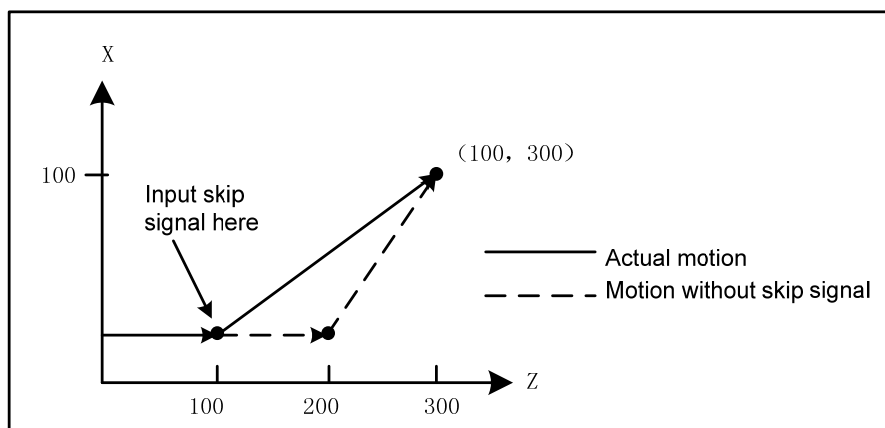

Fig. 2-16
3. The next block of G31 is the absolute coordinate programming of two axes as Fig. 2-16.